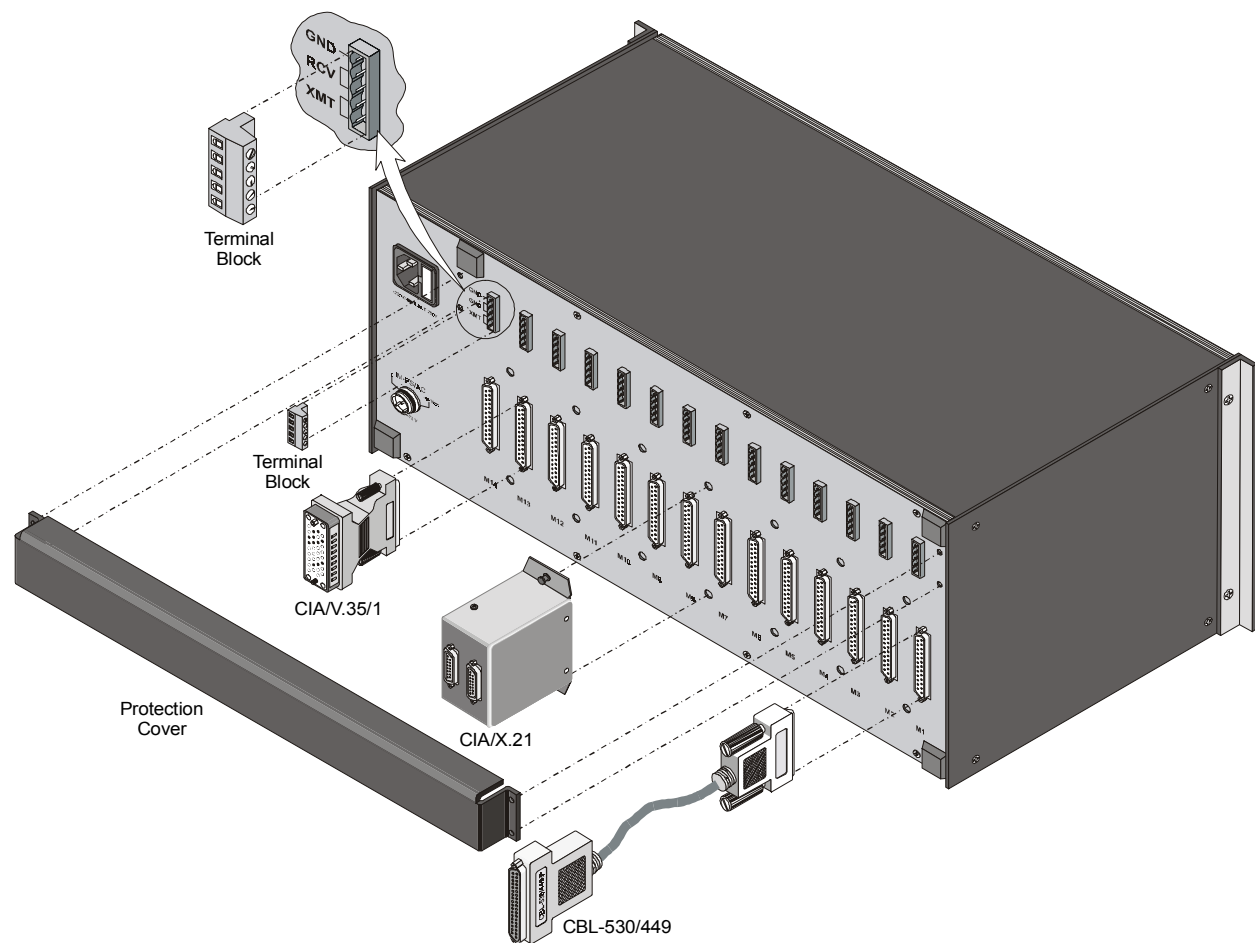

Figure 5-1 ASM-MN-214 Rear Panel
For each of the 14 cards, the rear panel (see *Figure 5-1*) contains a male connector for the terminal block and a DB-25 connector. A protection cover protects the terminal block connectors.
The terminal block (see *Figure 5-1*) is to be attached to the rear panel terminal block connectors. It contains screws for connecting the transmit and receive pairs and ground, if present.
V.36 modem cards are supplied with a RAD adapter cable CBL 530/449F, which converts the DB-25 connector to a V.36 37-pin connector. The adapter cable and two interface attachments are also shown in *Figure 5-1*.